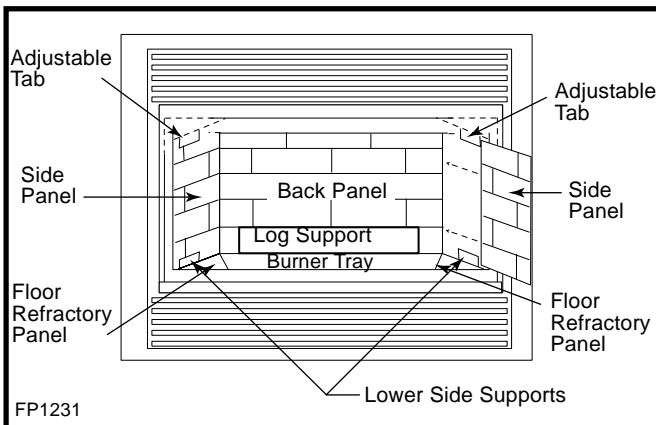

Fig. 53 Ceramic panel installation.
**Installation** Refer to Figures 53 & 54